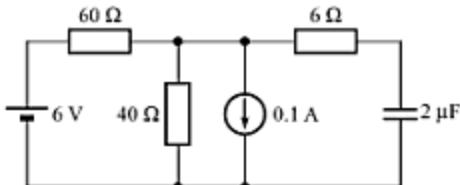

Fig. E-11
- E-4. Find the time constant of the circuit shown in Fig. E-11.